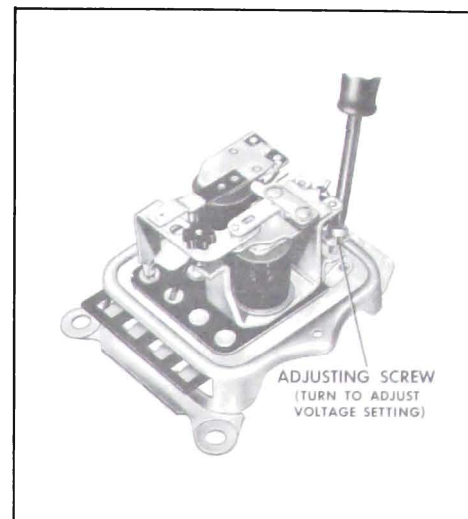

Figure 10-22—Adjusting Voltage Regulator Setting
When the ignition switch is turned on, current flows immediately through the field to ground inside the generator. Before the engine is started, the path of the field current is from the junction block, to the "BAT" terminal of the ignition switch, through the switch to both the "IGN" and the "ACC" terminal. From the "IGN" terminal, current flows through the generator indicator light in the instrument cluster (causing it to light), to the "4" terminal of the regulator. See Figure 10-22.
6. With cover off, voltage reading will change considerably. Starting with the changed voltage reading, increase or decrease voltage (the amount determined in Step 5) as shown in Figure 10-22.